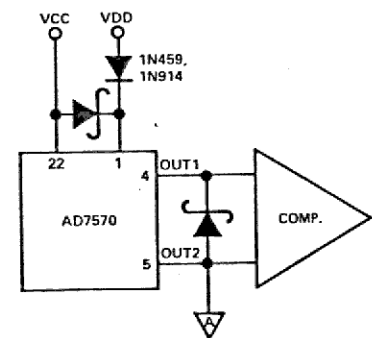

Figure 12. Diode Protection Scheme
1. Do not allow VCC to exceed VDD. In cases where VCC could exceed VDD, the diode protection scheme in Figure 12 is recommended.
3. Do not apply voltages (from a source which can supply more than 5 mA) lower than ground to the OUT1 or OUT2 terminal. (See Figure 12 Diode Protection Scheme.)